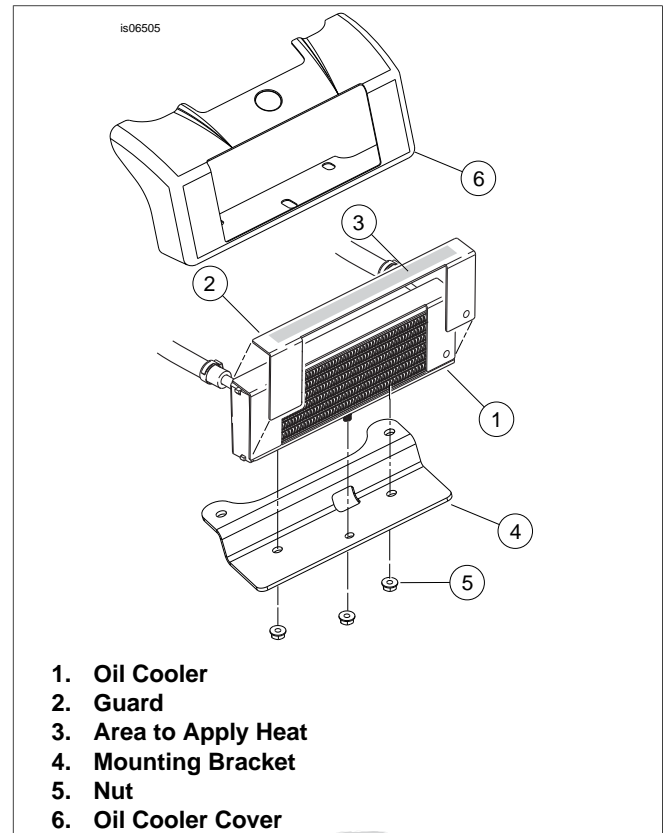

Figure 1. Oil Cooler Cover
1. See Figure 1. Remove the oil cooler guard (2) from the oil cooler (1) by using the Heat Gun (or equivalent) to apply heat to the top surface (3). Pull the guard away from the oil cooler and discard.
2. Remove the three locknuts (5) fastening the oil cooler to the mounting bracket (4).
4. Place the oil cooler cover (6) onto the oil cooler studs, between the oil cooler and the mounting bracket.